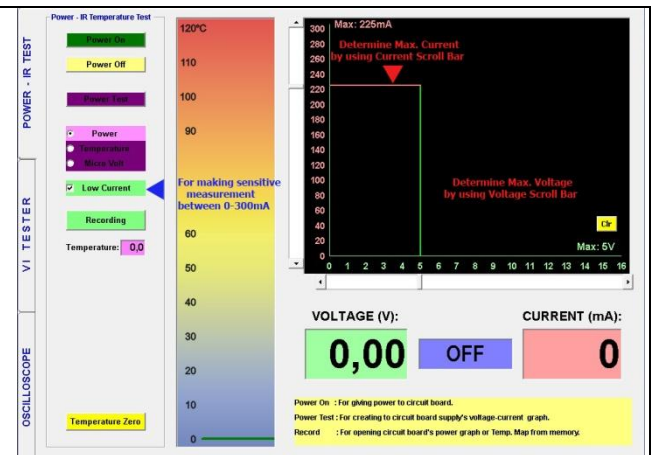

Figure 19: Adjusting the Voltage and Current (Step 2)
2. The maximum Voltage and Current values, which the circuit operates on, are adjusted from the scroll bars. (Figure 19)